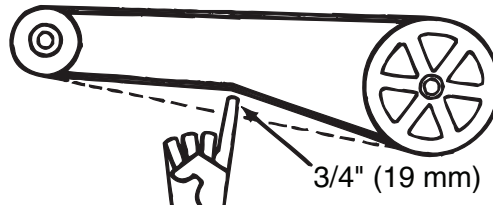

Figure 43. Checking Belt Tension
- Proper belt tension is important to the long life of the belt and motor. A loose belt will cause wear and slippage. Too much tension will cause excessive motor and blower bearing wear. Check belt tension as shown in Figure 43.
- If the belt cannot be depressed 3/4 inches (19 mm), as shown in Figure 43, adjust the belt tension as follows: